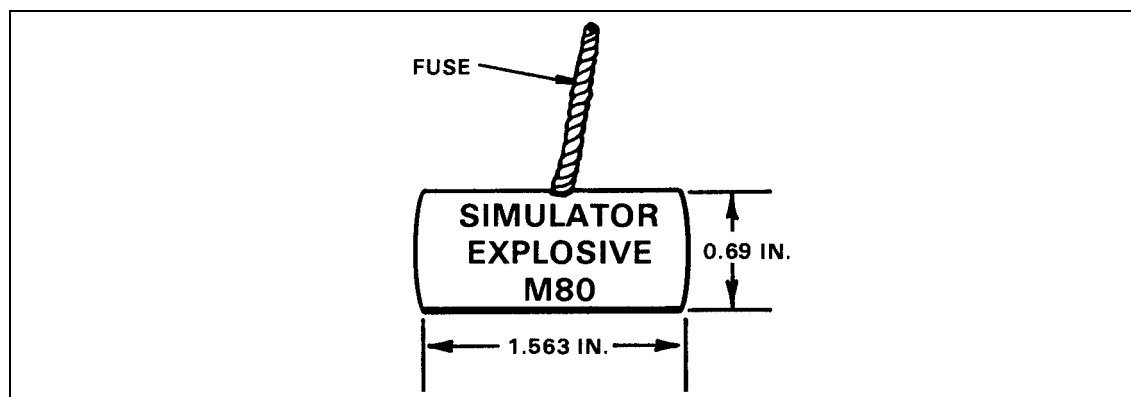

Figure 5-7. M80 simulator.
d. The explosive simulator, M80, (Figure 5-7) is used during training and in deactivation training programs. It simulates hand grenades, booby traps, land mines, and rifle or artillery fire.